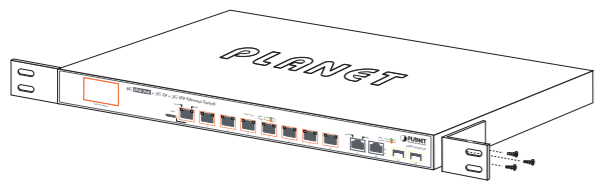

Figure 3: Attaching the Brackets to the Ultra PoE Gigabit Switch
- Step 2:** Attach a rack-mount bracket to each side of the Ultra PoE Gigabit Switch with supplied screws attached to the package. Figure 3 shows how to attach brackets to one side of the Ultra PoE Gigabit Switch.